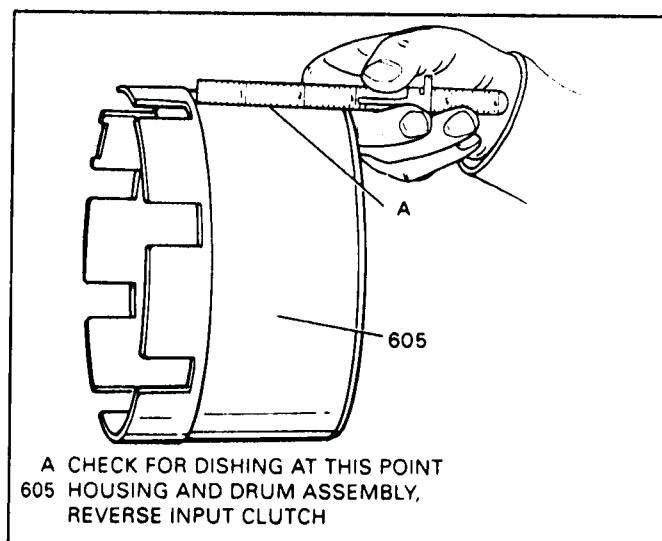

Figure 119
2. Inspect the reverse input clutch housing with a straight edge, as shown in Figure 119, for flatness.